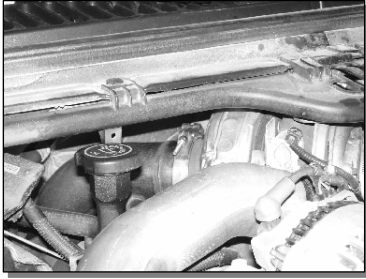

Figure 3
5. Remove the down pipe from the turbo by removing the band clamp using an 11mm socket. Retain the band clamp for the installation of the new down pipe. **See Figure 3.** Cut the down pipe in front of the transmission cross member to remove. (**Note:** The stock down pipe can be removed in one piece by removing the transmission cross member. MBRP Inc. recommends that this procedure only be done by qualified, trained professionals using tools and equipment designed to safely carry out this process.)